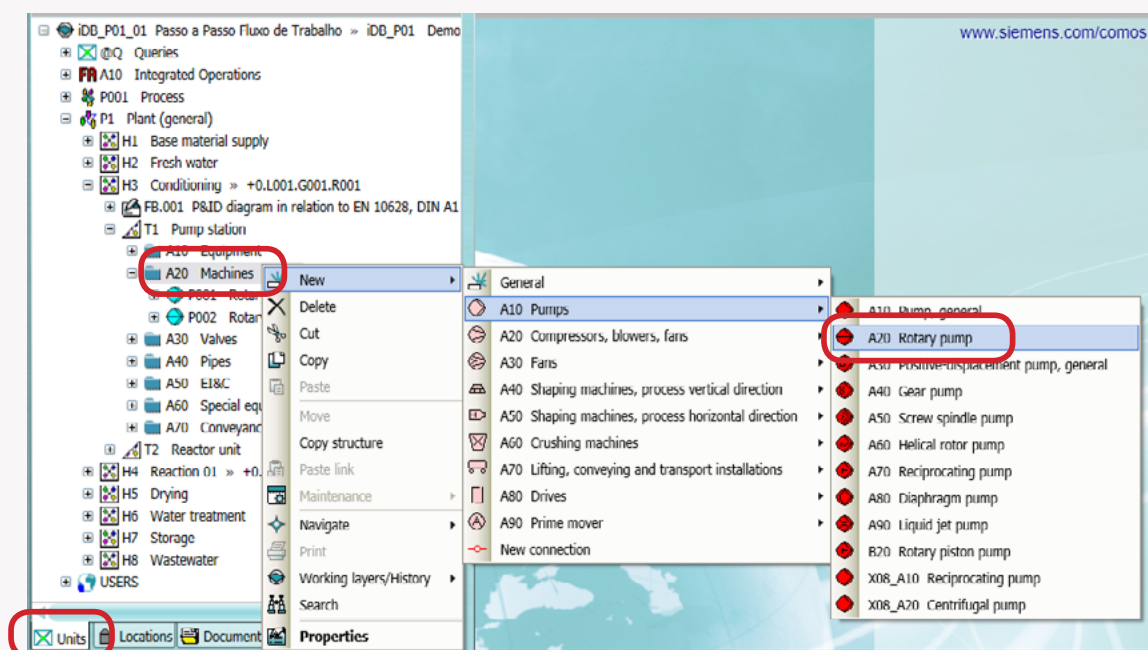

Figure 22 - Creating pump P003
- Select the option: **New | A10 | A20 (Figure 22)**;